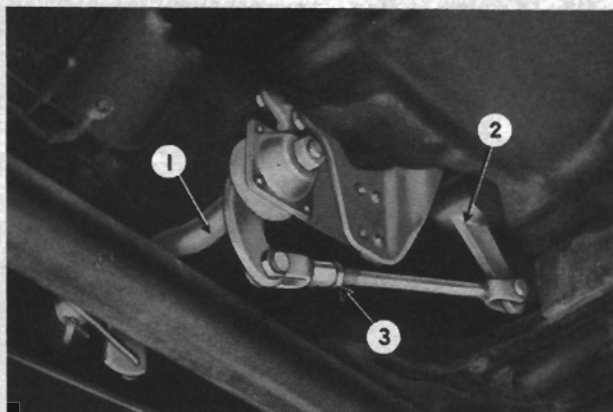
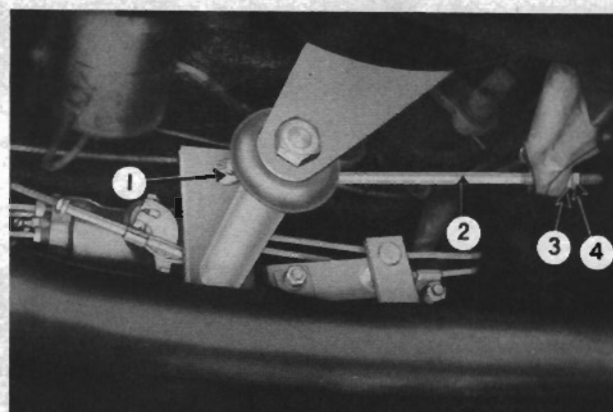

FIG. 14
FIG. 15
adjustment, loosen the lock nut (3, Fig. 14) on the rod connecting the clutch release shaft lever to the clutch operating shaft lever and remove the clevis pin. Turn the clevis to shorten or lengthen the rod to decrease or increase the pedal free travel as required. On the Goldenhawk, loosen the lock nut (4, Fig. 15) and turn the nut (3) as required to secure the proper adjustment.